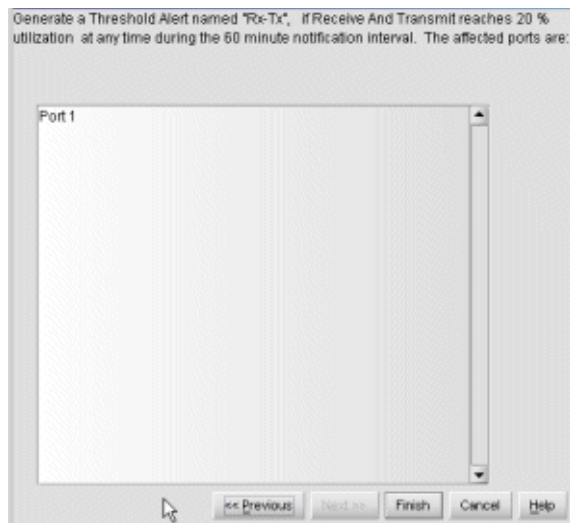

Figure 40: New Threshold Alerts dialog box—summary screen
11. Click **Next**. A final screen displays to provide a summary of your alert configuration, as shown in Figure 40.